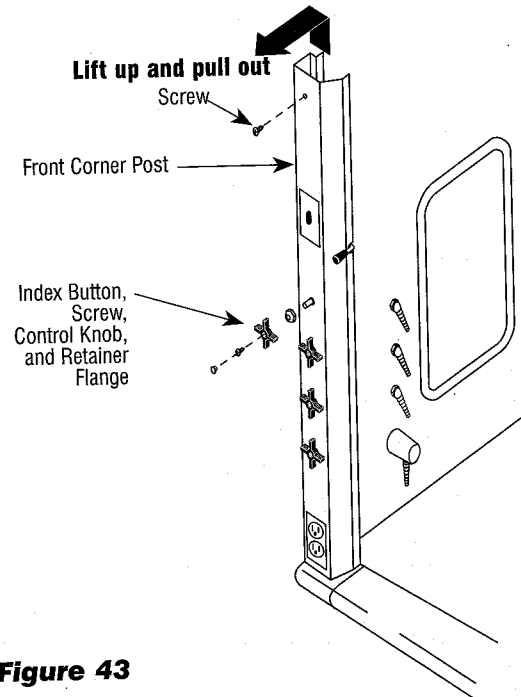

Figure 43
4. Remove both front corner posts (See Figure 43).